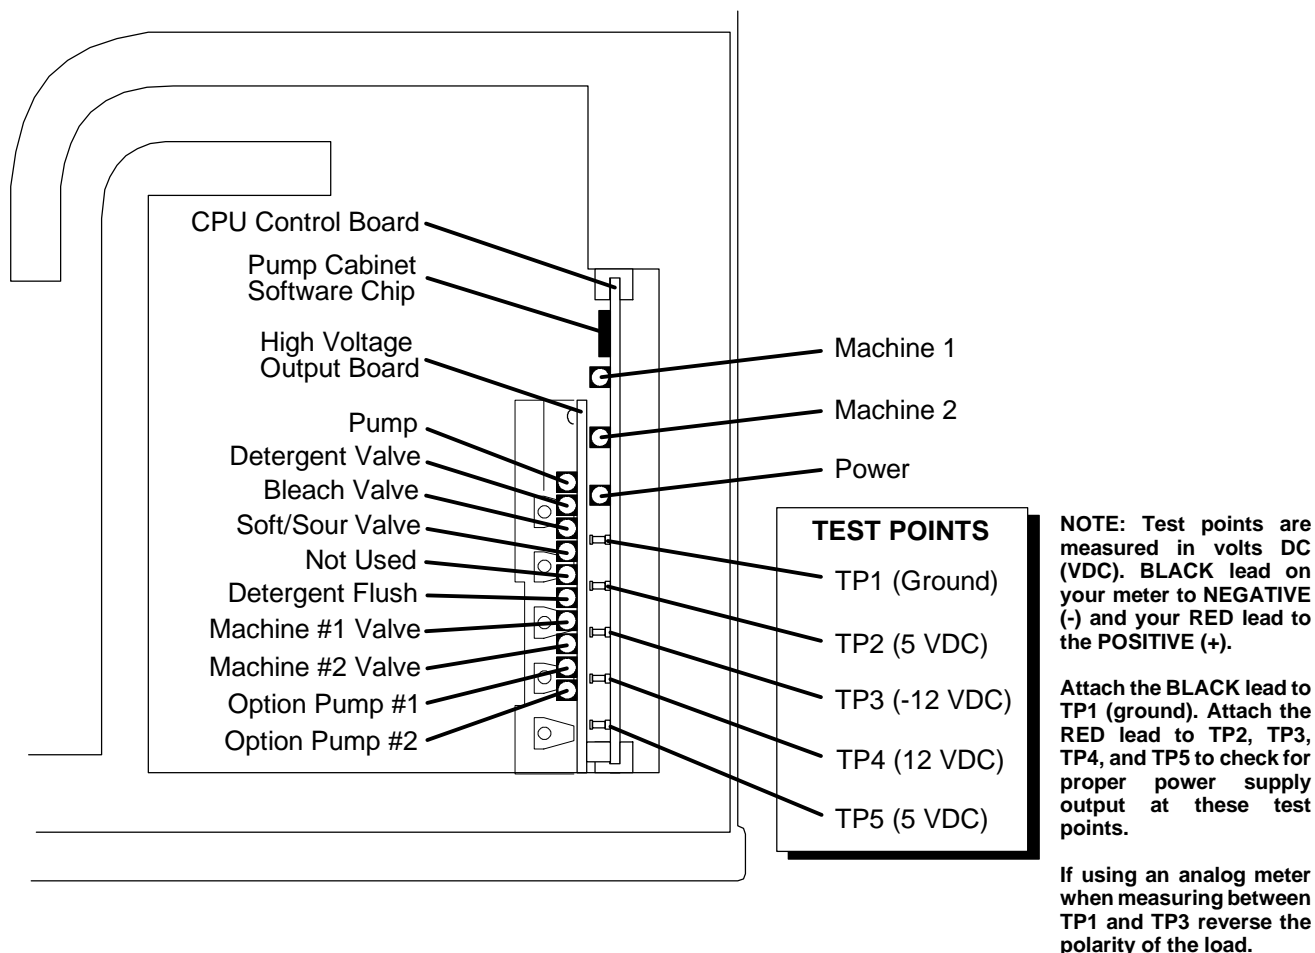

Figure 6-1
3. If pump is not running, determine if pump light on output board is ON". Refer to Figure 6-1 on page 6-3.	a. If pump light is ON", replace pump. b. If pump light is not ON", replace output board.
3. Check test points for proper output, refer to Figure 6-1 on page 6-3.	a. If test point voltages are wrong, replace power supply. b. If test point voltages are correct, replace the CPU board.
6. Check test points for proper output., refer to Figure 6-1 on page 6-3.	a. If voltage is not correct, change power supply.